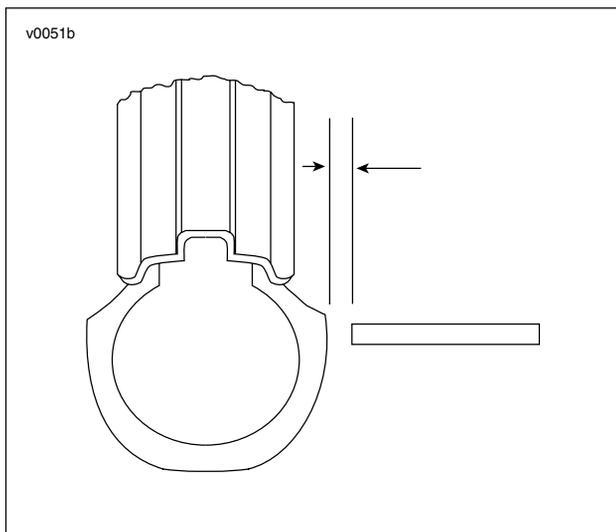

Figure 2-86. Lateral Tire Runout
- See Figure 2-86. Check tire runout by turning wheel on axle, measuring tire lateral runout.